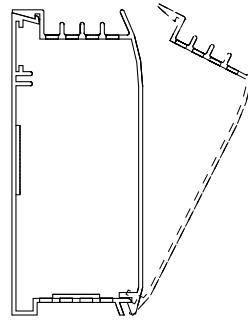

Fig. 5
17. Before energizing, make sure front cover is properly locked onto the back housing along the entire length of the heater, see Fig. 5. Do not operate heater without front cover installed.
10. Replace front cover by latching the bottom front edge of the front cover over the bottom front edge of the back and pushing the cover straight back to latch the top rear edge of the back with the top rear edge of the front cover. See Fig. 5.
10. Replace front covers following Step 10 under **Single Unit Installation**. (See Fig. 5.)
5. Replace front cover as shown in Fig. 5 making sure it is locked in position along length of heater. Restore power to heater and verify it is operating properly.